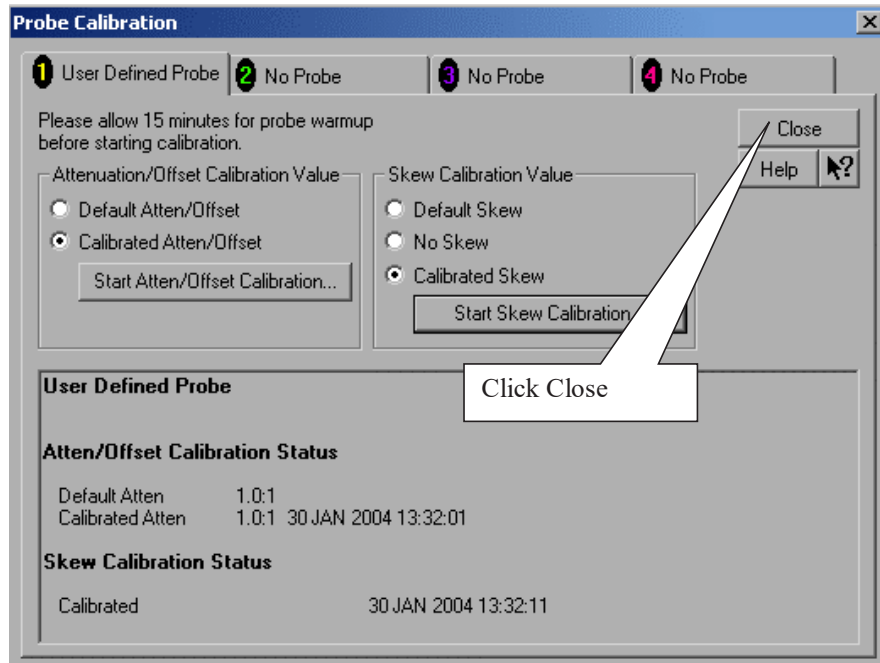

Figure 17 Calibration Window.
- 11 Referring to Figure 17 below, perform the following steps: